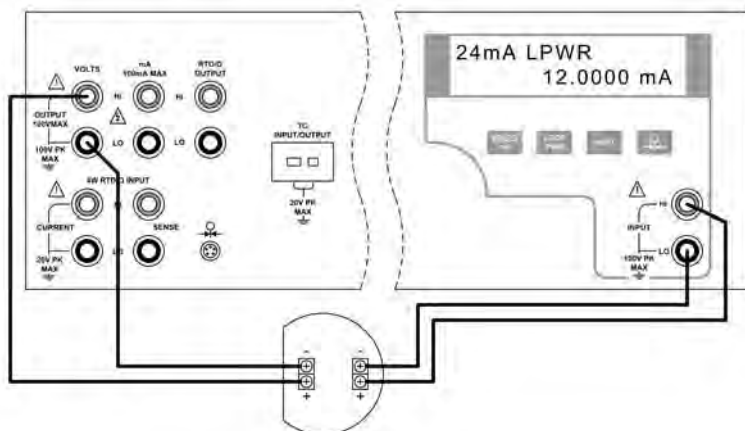

Figure 22 - V/I Transmitter Application
4. Connect the transmitter as shown in figure 22.